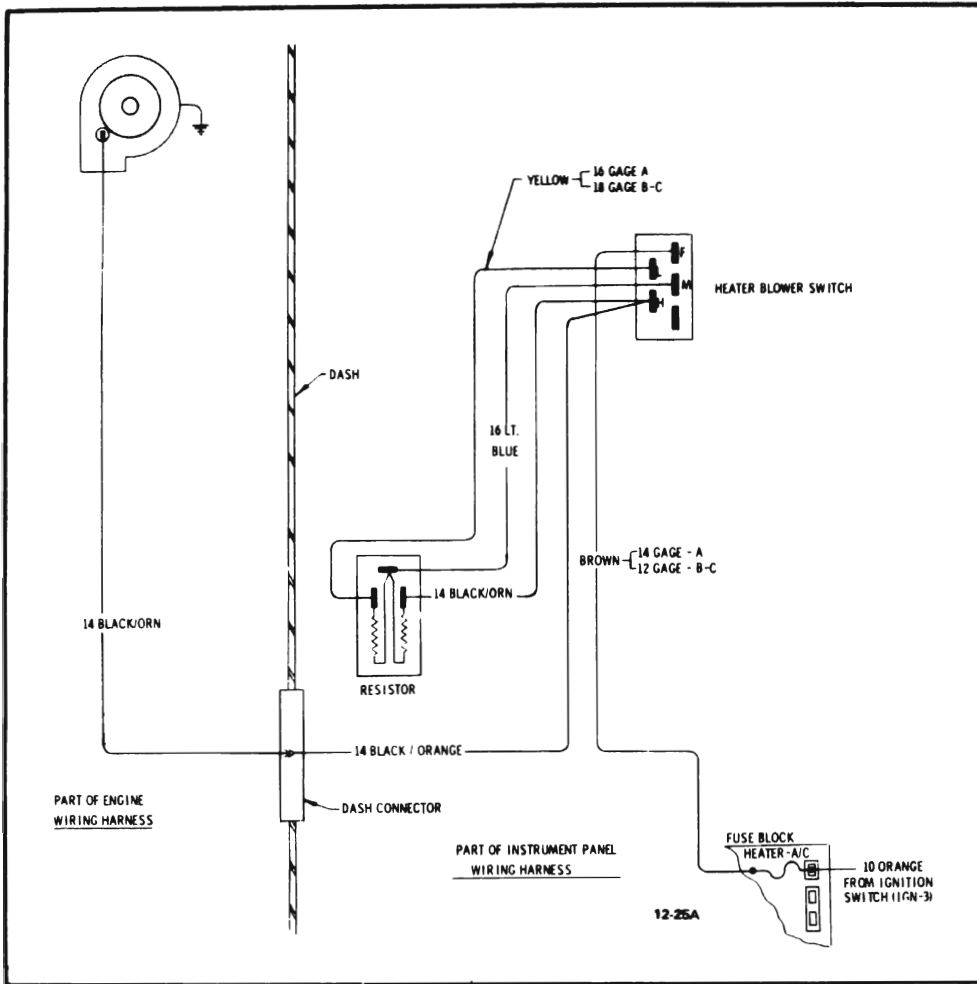

Figure 12-12 Heater System Wiring Diagram
1. Blower and Air Inlet Assembly - The blower and air inlet assembly draws outside air through the outside air inlet grille located forward of the windshield reveal molding and channels the air into the heater assembly. The operation of the blower motor is controlled by a FAN switch on the heater control. The motor is connected in series with the four position FAN switch and also the blower resistor assembly. See Figure 12-12. A 25 amp fuse, located in the fuse block, is in series between the blower motor and the battery.